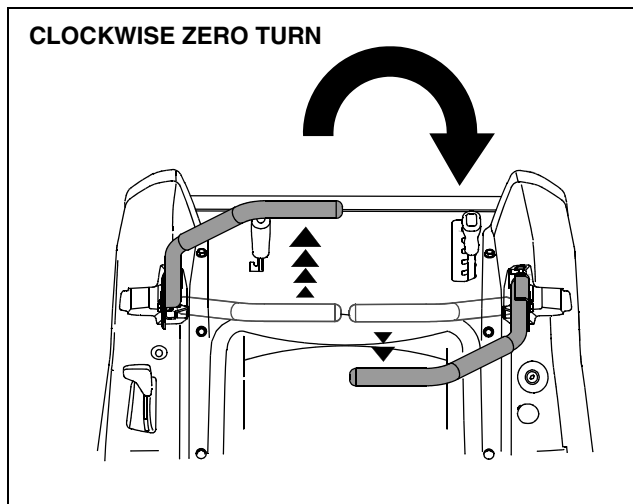

Figure 16
- To turn clockwise, slowly move the left control lever forward while simultaneously moving the right control lever rearward. See Figure 16.